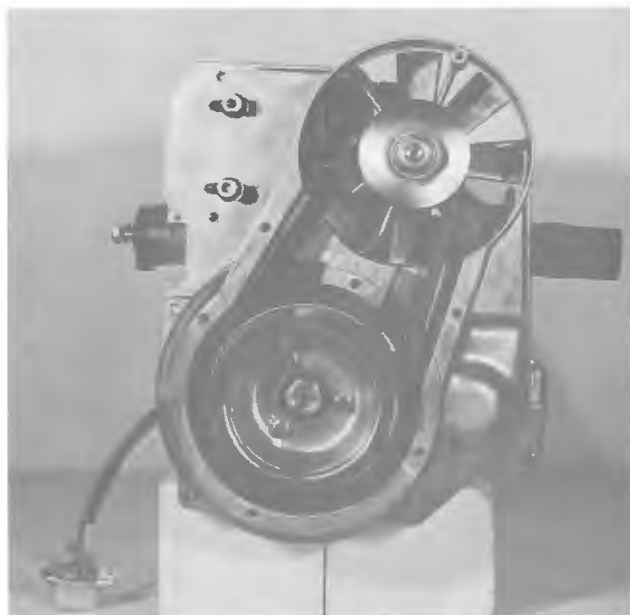

FIGURE 3-3 RECOIL STARTER AND IGNITION REMOVED
- f. Remove the two bolts and spacers securing high tension coils to fan cover. Remove coils with spark plug wires attached. Figure 3-3